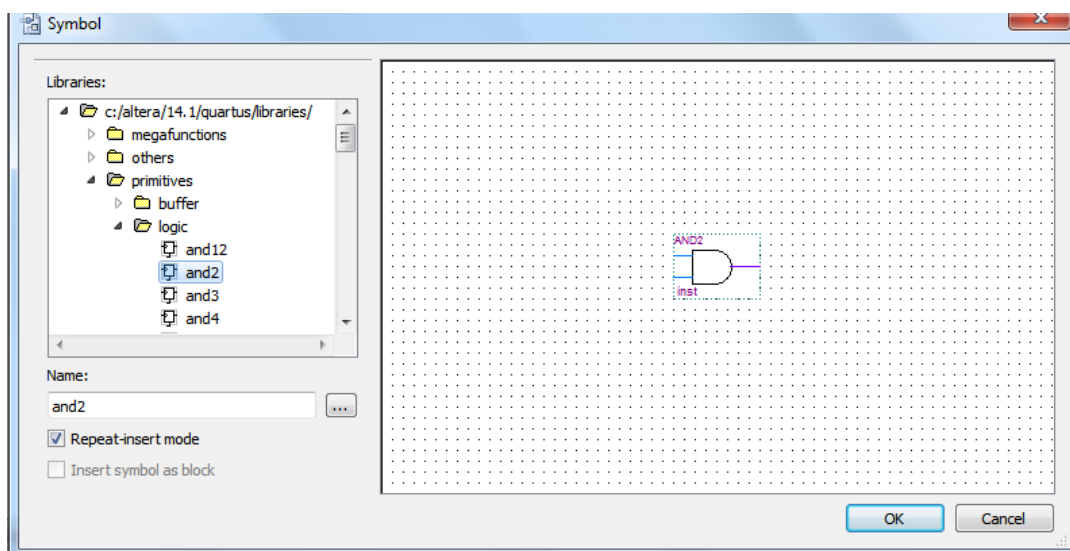

Fig. 6: Choosing a symbol from library
- D.3) Based on your **Vote Analyzer** design in preliminary work Part-7, insert appropriate gates and input/output pins on schematic window. As an example, if you have used 2-input AND gate in your design, expand the **library** directory and then expand **primitives** directory. In primitives, expand **logic** directory and choose **and2** gate as shown in Fig. 6